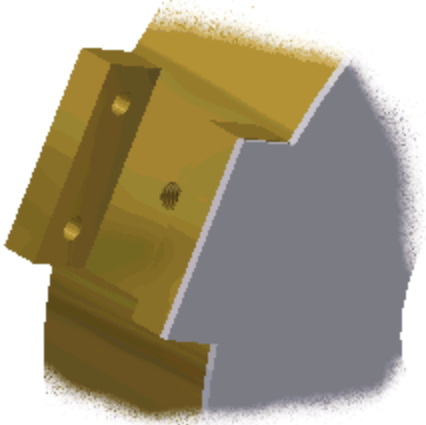

Figure 12: Cover adapts to outer loop change.
5. Now, return to the assembly environment. The cover adapts to match the change to the outer loop of the ring face, but the two additional inner loops (circles) are not considered in the cover extrusion (see Figure 12).